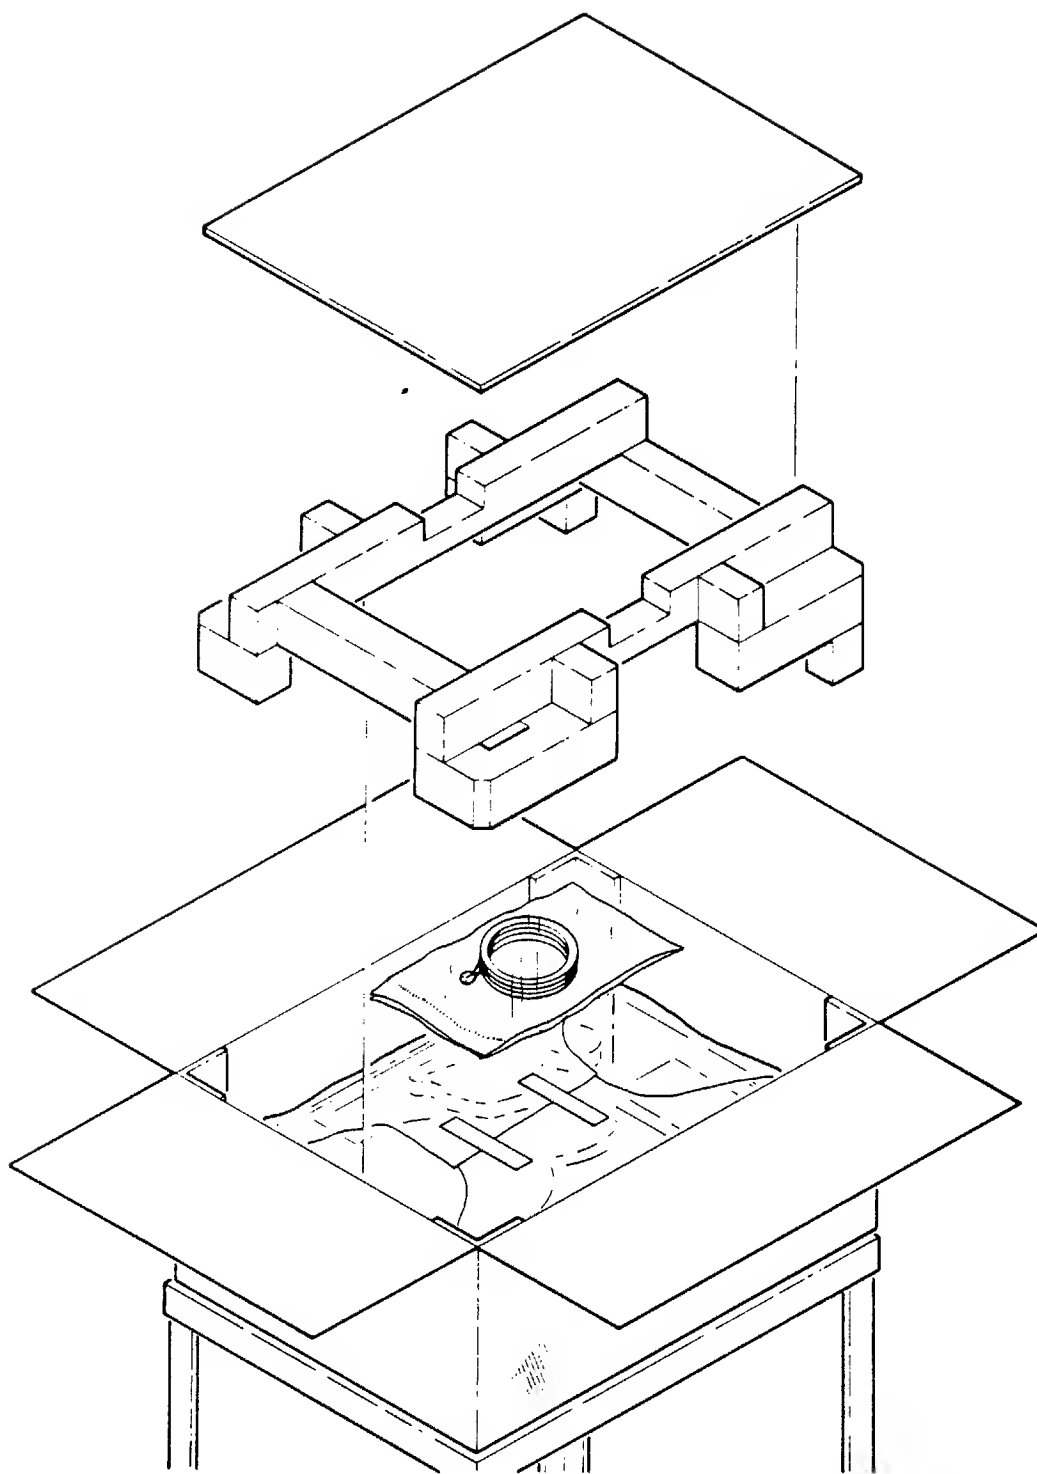

Figure 6.
8. Place the top frame (correctly oriented) on top of the GCRCTU, and place the top deck-pad on top of the foam bars. See Figure 6.